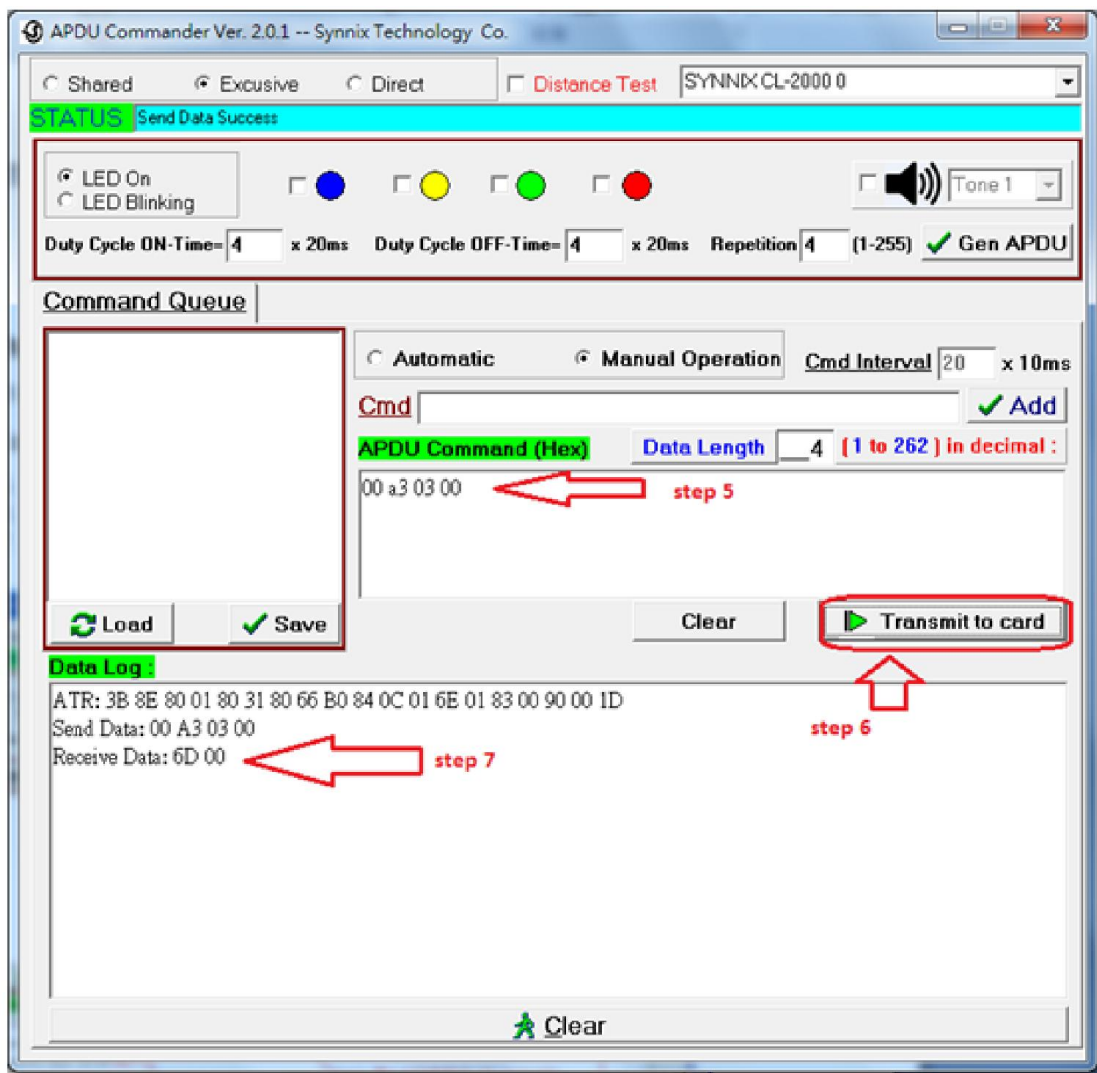

Figure 4
7. See return value from the card. See Figure 4.